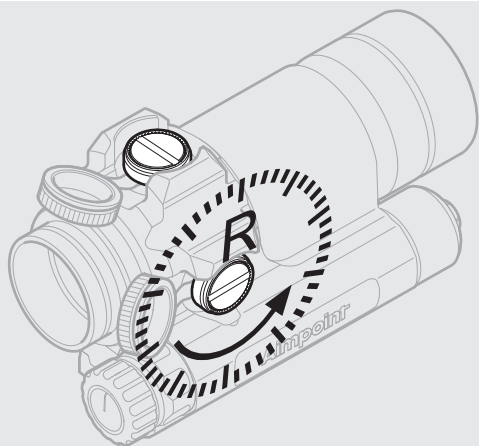

Fig. 3 Windage adjustments
- e Windage adjustments (see Fig. 3):